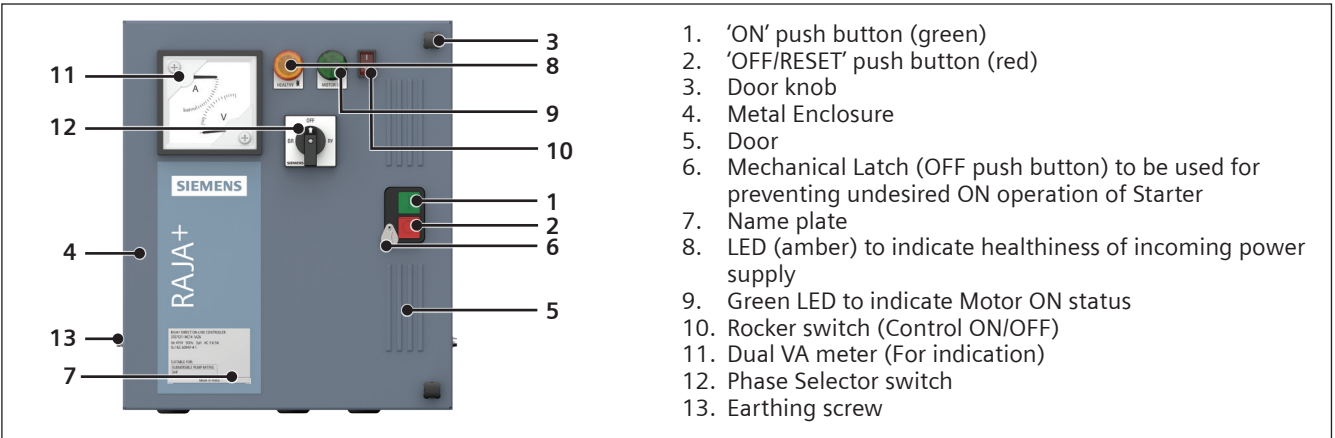

Fig. 1: DOL Controller
- For starting the motor, press Green push button marked 'I' (Fig. 1).
- For stopping the motor press Red push button marked 'O' (Fig. 1).